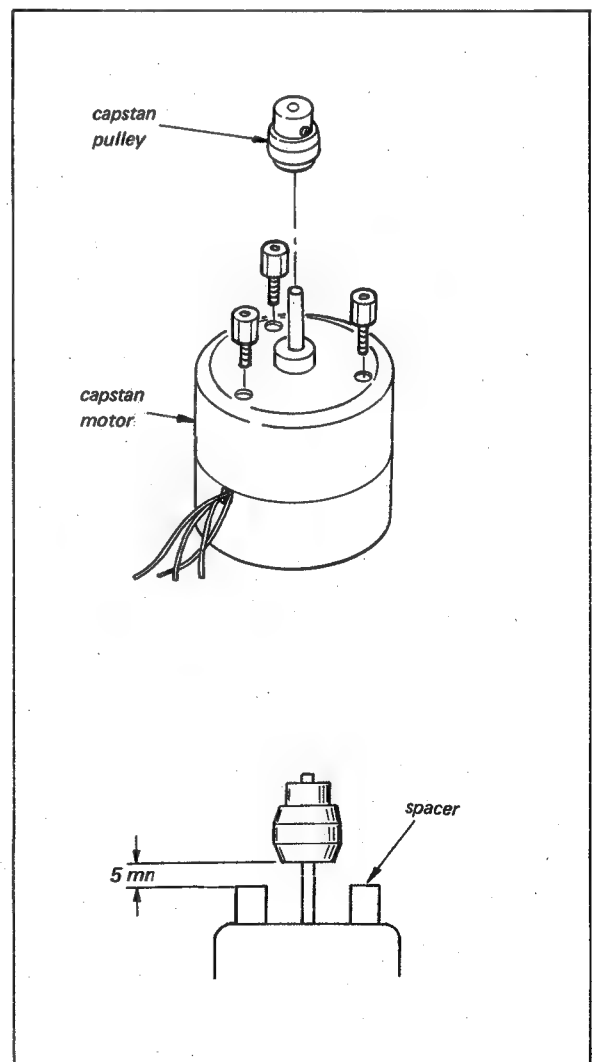

Fig. 4-24.
4. Install the capstan pulley and the three mounting collars on the new motor. Space the bottom edge of the pulley 4.5 mm from the collar. See Fig. 4-24.